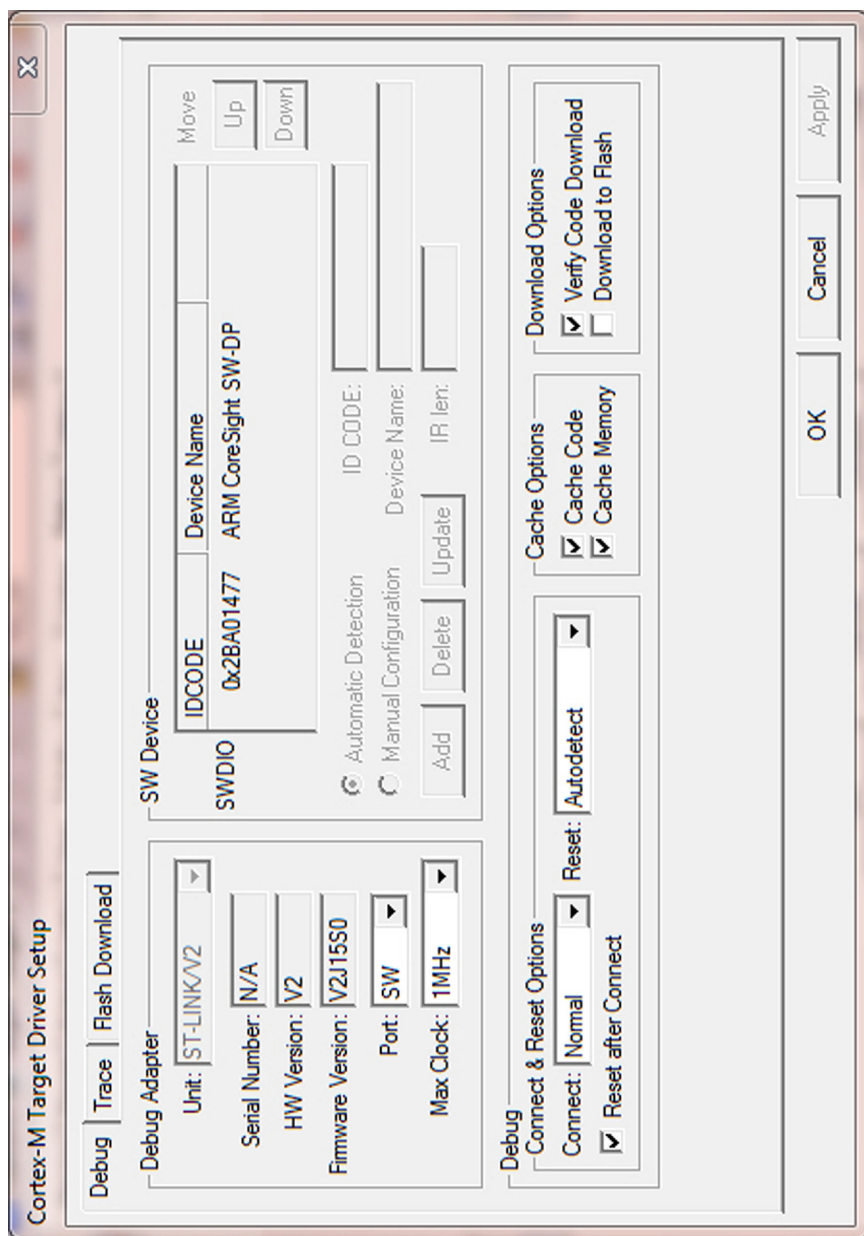

FIGURE 15.14
After you have select the ST-LINK adpator, click the “Settings” button next to it, and you should see the options shown in Figure 15.14. If not, you have selected the older version of ST-Link adaptor, which only offers the option of JTAG or Serial Wire debug protocol.
- Debug (see Figure 15.14)